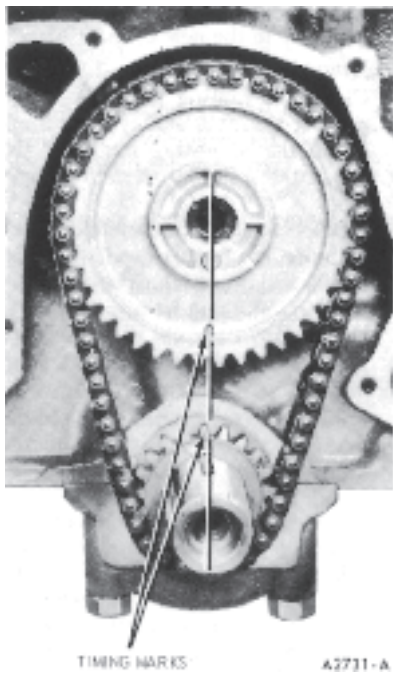
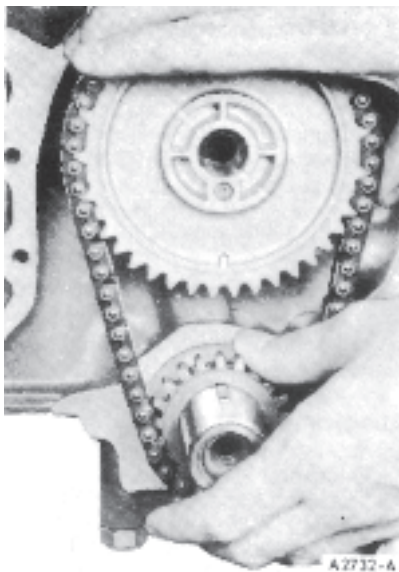

Fig. 22 Aligning Timing Marks
Fig. 23 Removing or Installing Timing Chain
9. Crank the engine until the timing marks on the sprockets are positioned as shown in Fig. 22.
10. Remove the camshaft sprocket cap screw, washers and fuel pump eccentric. Slide both sprockets and the timing chain forward, and remove them as an assembly (Fig. 23).
1. Position the sprockets and timing chain on the camshaft and crankshaft simultaneously (Fig. 23). Be sure the timing marks on the sprockets are positioned as shown in Fig. 22.